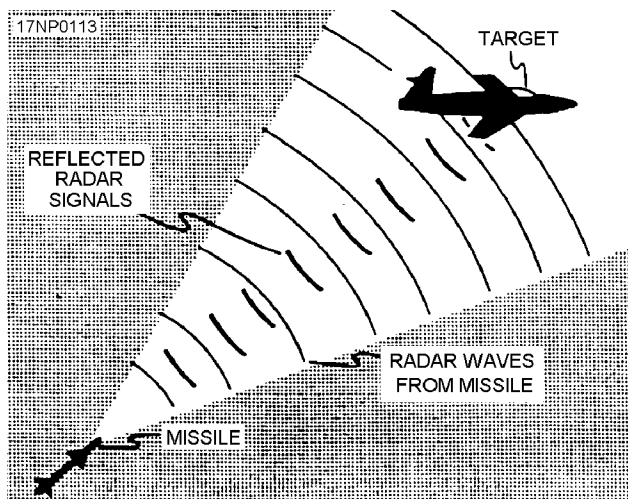

Figure 3-3.—Active homing system.
**ACTIVE.**—In the active homing system, target illumination is supplied by a component carried in the missile, such as a radar transmitter. The radar signals (fig. 3-3) transmitted from the missile are reflected off the target back to the receiver in the missile. These reflected signals give the missile information such as